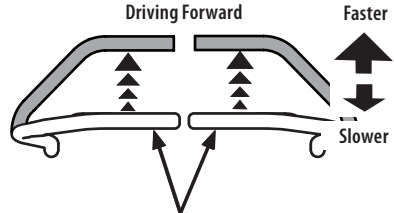

Fig. 21
1. Slowly and evenly move both lapbar drive control levers forward. The tractor will start to move forward (Fig. 21).